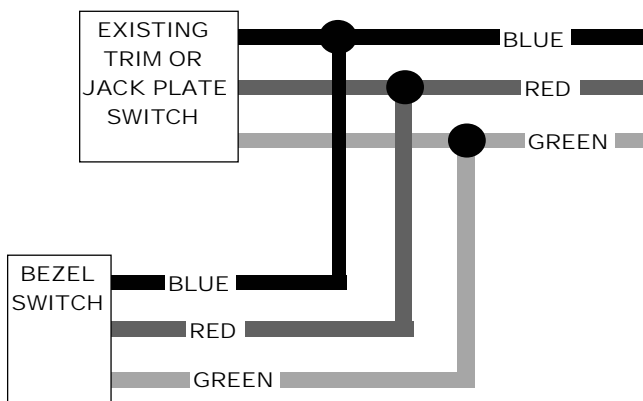

FIGURE 1
**Step 4.** Make the wire connections as shown in figure 1. When cutting into the boat's trim or jack plate wiring, cut only one wire at a time. Strip both cut ends. Using a butt connector, put these two wires into one end of the connector and the appropriate color switch wire into the other end of the connector. Note: Be sure that the connector will accept (1) 16 gage wire on one end and
(2) 16 gage wires on the other. Follow this same procedure (one wire at a time) for the remaining wires.